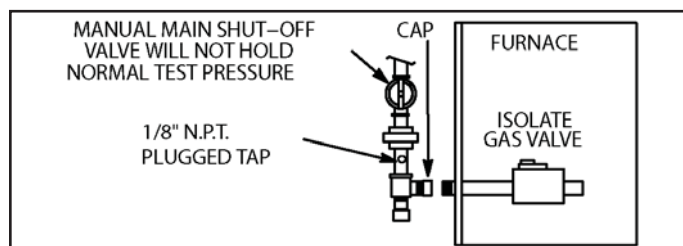

Figure 38.
5. A 1/8" N.P.T. plugged tap or pressure post is located on the gas valve to facilitate test gauge connection. See Figure 38.
When testing pressure of gas lines, gas valve must be disconnected and isolated. See Figure 38. Gas valves can be damaged if subjected to pressures greater than 1/2 psig (3.48 kPa).